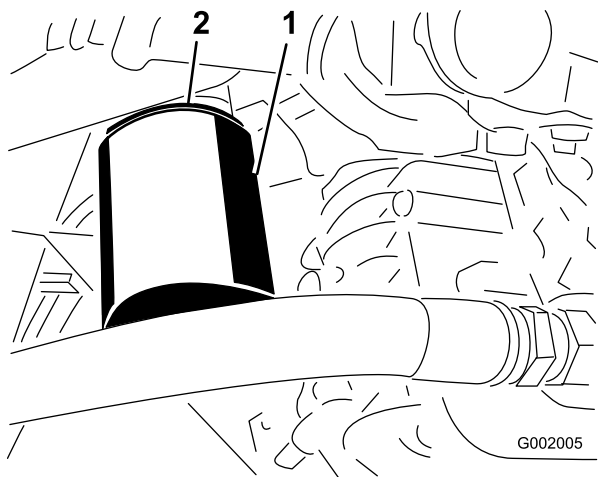

Figure 68
4. Remove the filter (Figure 68).